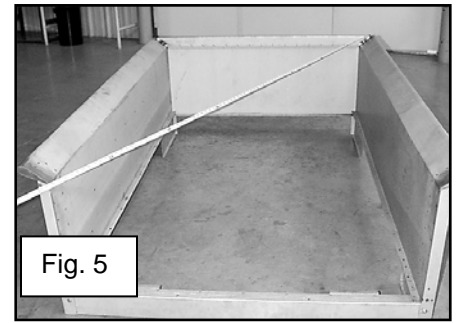

Fig. 5
6. Also measure crosswise from the front of the bed to opposite rear of the bed on both sides. See figure 5. These measurements should be within 1/16" of each other to ensure bed squareness.